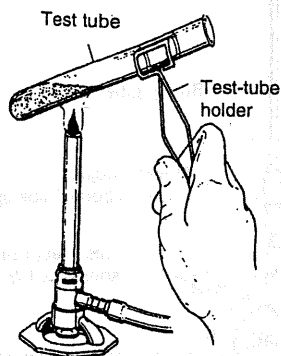

Figure 6. Heating a liquid in a test tube
4. Hold the test tube in a slanting position in the flame, and gently heat the tube a short distance below the surface of the liquid. Move the test tube back and forth over the flame to regulate the heat input (Figure 6).